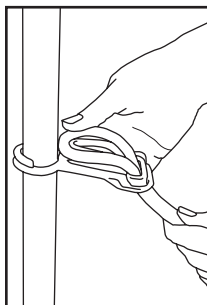

Fig. 4
4. Pull down on the power cord to remove any slack (Fig. 4).